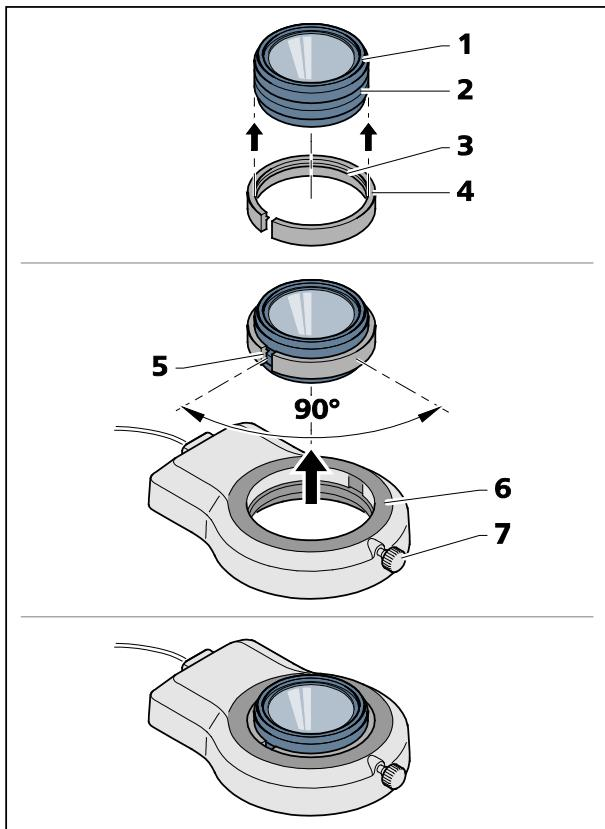

Fig. 14 Mounting ring illuminator to front optics 3
- Put the slotted adapter (Fig. 14/4) supplied with the device (OD 66 mm, ID 58 mm) onto the front optics (Fig. 14/1) from below. The circumferential bead (Fig. 14/3) inside the adapter must lock into the outer groove (Fig. 14/2) of the front optics.
- Push ring illuminator (Fig. 14/6) onto the AD of the adapter and secure it by means of clamping screw (Fig. 14/7).
The best clamping effect is achieved if the slot (Fig. 14/5) of the adapter and the clamping screw (Fig. 14/7) of the illuminator are offset by approx. 90°.